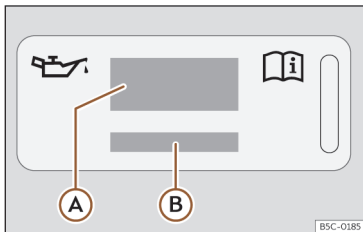
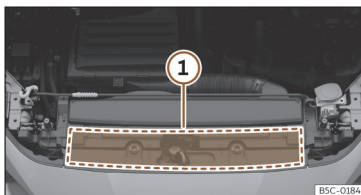

Fig. 221 In the engine compartment: engine oil label
Fig. 222 In the engine compartment: area where the engine oil label is located
Key to the >>> **Fig. 221:**
If the engine oil has to be topped up, use one of the oils shown on the label >>> **Fig. 221**. The label with the prescribed standard is located at the front of the engine compartment >>> **Fig. 222 ①**. If you use the recommended engine oil, you can top up the oil as often as necessary.
- If the label showing the engine oil specifications is missing >>> Fig. 221, please contact a specialist workshop.